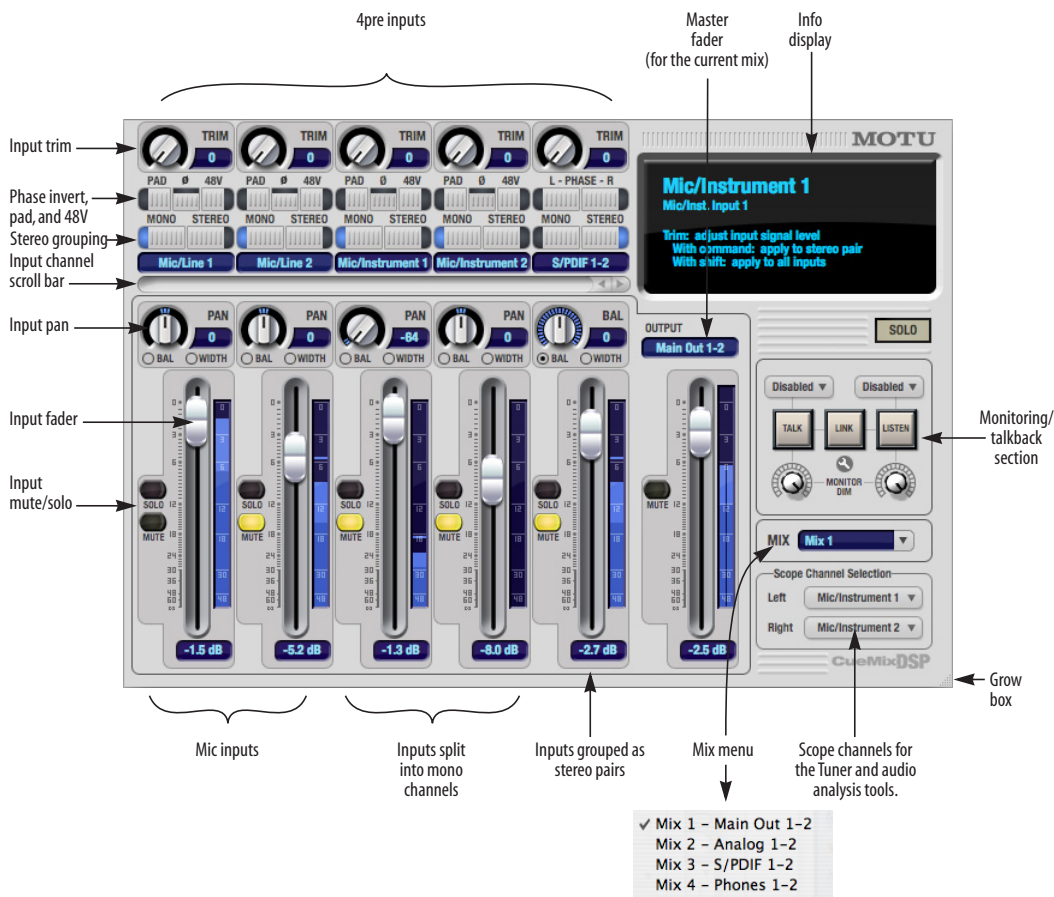

Figure 9-1: CueMix FX is a virtual mixer that gives you control over the 4pre's on-board mixing features.
CueMix FX displays one mix at a time. To select which mix you are viewing, choose it from the mix menu (Figure 9-1). Click the mix name to change it. The mix output pair appears above the mix master fader (Figure 9-1).
To view more input faders at once, drag the grow box (Figure 9-1) to the right.
To view a mix, choose it from the *Mix* menu (Figure 9-1). The menu shows all mixes by name, followed by the audio interface's output pair that it corresponds to.
The master fader (Figure 9-1) controls the overall level of the mix (its volume on its stereo output). Use the individual input faders to the left to control individual input levels.
The mix mute button (Figure 9-1) disables (silences) the mix.
The *Inputs* section (Figure 9-1) gives you access to individual 4pre inputs (or input pairs). Unmute the input and bring up its fader to hear the input on the current mix's output. Mute, solo, and pan are also provided for each input channel.
The *Phase* button (Figure 9-1) inverts the phase of the input signal. For stereo pairs, you can invert the phase for the left and right channels independently. For the mic/instrument/line channels, click the phase button (ø) repeatedly to cycle among two states for mono channels (on or off) and four states for stereo grouped channels (no inversion, left only, both, or right only).
Click the *Mono* button (Figure 9-1) if you would like an input to be treated as a mono channel. If you would like to work with it as one channel of a linked stereo pair, click the *Stereo* button. Inputs are grouped in odd/even pairs (Mic/instrument 1-2, Mic/Line 1-2, etc.) Stereo pairs appear as a single channel strip in the CueMix FX mixer.
Click the input name at the top of the input channel strip (Figure 9-1) to edit the name. Input names are global across all mixes. This name also appears in host audio software on the computer (if the software supports channel names).
The pan knob (Figure 9-1) for each input pans the input across the mix’s stereo outputs. If the input itself is grouped as a stereo pair, two forms of panning control are provided:
Use the input fader (Figure 9-1) to adjust the level for the input in the mix. Note that an input can have different level, pan, mute and solo settings for each mix. Input channel level meters are post-fader.
The *Scope channel selection* menus (Figure 9-1 on page 54) let you choose what input channels will be fed to the CueMix FX audio analysis (scoping) features. See “Devices menu” on page 59.
- 1 Select the source mix (Figure 9-1) and choose Copy from the Edit menu (or press Command-C).